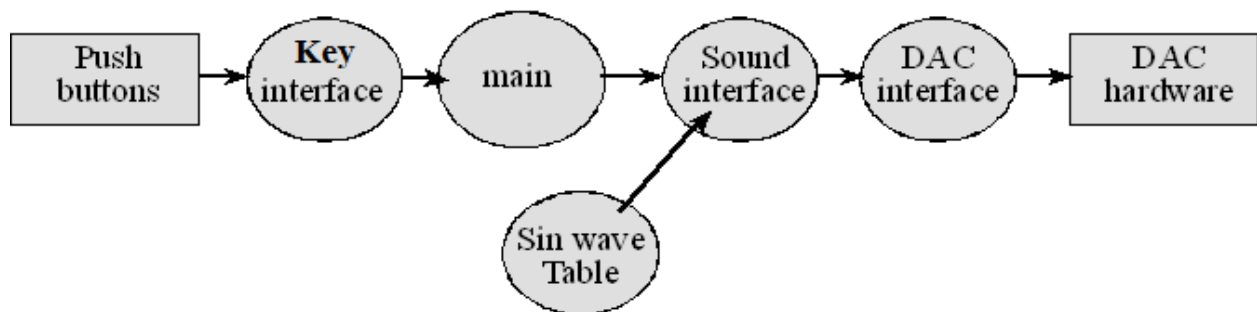

Figure 6.6. Data flows from the memory and the switches to the speaker.
Write a main program to implement the **three-key or** four-key piano. Make a heartbeat connected to an LED (use PortF) so you can see that your program is running. Document clearly the operation of the routines. Figure 6.1 shows what a lab 6 project might look like at this step in the process. Figure 6.6 shows a possible data flow graph of the music player. Debug the system first in the simulator then on the real TM4C123 with the **TEaS** oscilloscope. **Take a screenshot of a scope trace (like Figure 6.5)** to capture the waveform generated by your digital piano. When no buttons are pressed, the output will be quiet. When switch 1 is pressed, output a sine wave at one frequency. When switch 2 is pressed, output a sine wave at a second frequency. When switch 3 is pressed, output a sine wave at a third frequency. When switch 4 is pressed, output a sine wave at a fourth frequency. **The fourth switch is optional.** Only one button will be pressed at a time. The sound lasts until the button is released.
- b. If you organized the system different than Figure 6.6 and 6.7, then draw its data flow and call graphs